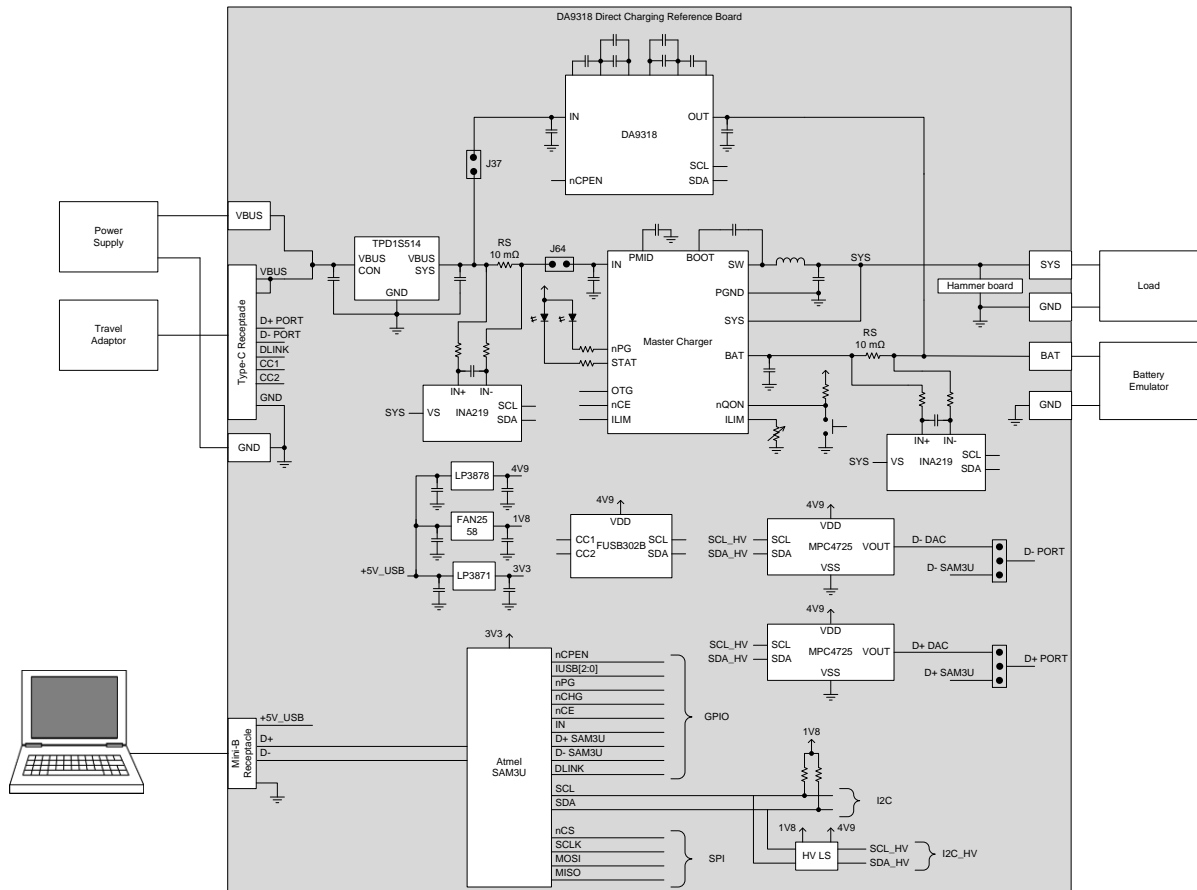

Figure 1: DA9318 Direct Charging Block Diagram
The document covers a normal charging cycle, using an off-the-shelf charger IC and a charging cycle with the direct charging enabled. Direct charging means connecting the travel adaptor (TA) directly to the battery in the constant current charging phase. A block diagram of the DA9318 direct charging reference board is shown in Figure 1.